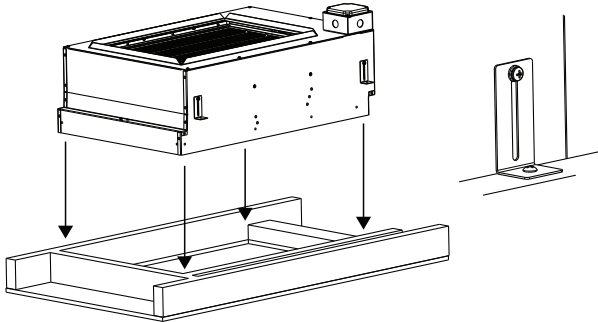

Fig. 6 – Position Unit and Secure L-Brackets
7. Lift the unit into the rough-in location, resting on the L-bracket supports (Fig. 6).